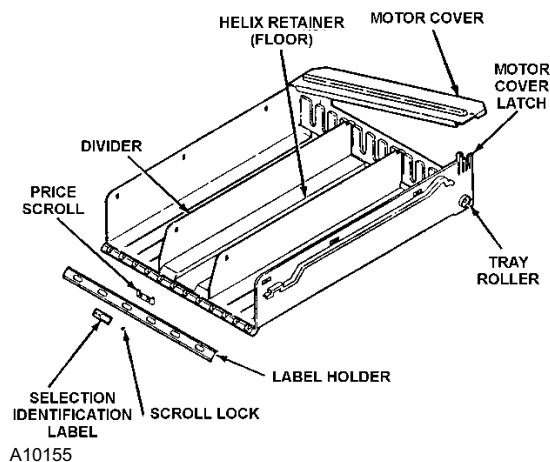

FIGURE 9. Tray Assembly
3. Depress the motor cover latch and remove the motor cover. See Figure 9
8. Replace the motor cover by hooking the left end into its retainer on the tray and snapping the right end into the motor cover latch. See Figure 9.